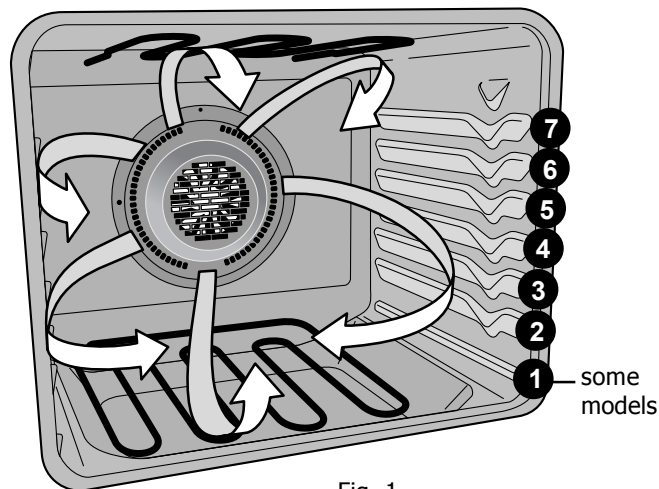

Fig. 1
- When using 2 oven racks at the same time, place in positions 2 & 5 for best results (See Fig. 1).